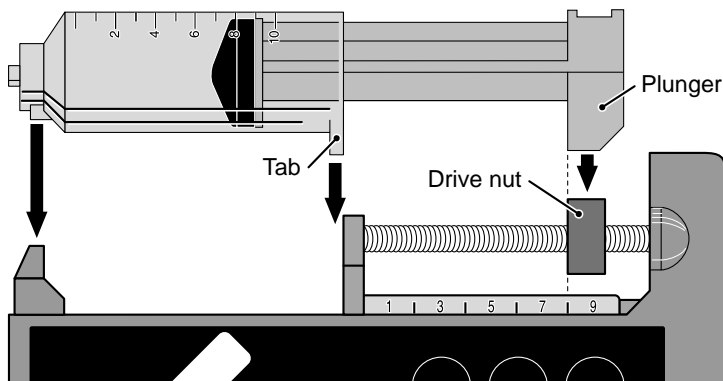

Figure 14. Placing the reservoir onto the pump.
4. Determine the amount of medication in the new reservoir. Rotate the drive nut so its left edge lines up with the corresponding graduation on the pump. (See figure 14.)
5. Place the new reservoir onto the pump making sure the plunger rod end is seated firmly **around the drive nut** and the reservoir heel is engaged in its slot. (See figure 14.) Snap the reservoir into place.